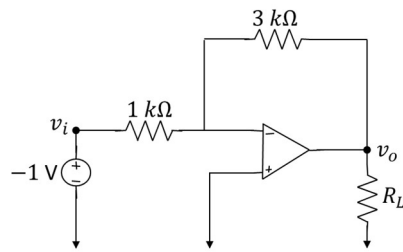
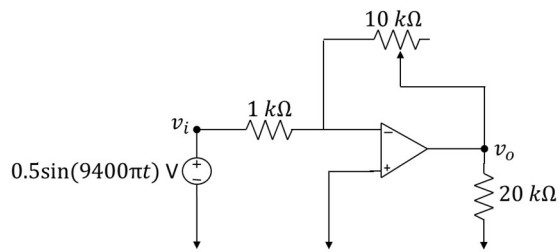

Figure 5. Inverting amplifier.
Figure 8. Inverting amplifier with volume control.
Figure 5 below shows an inverting amplifier circuit. Assume power rails of $\pm 5\text{ V}$.
a) Calculate the value of v_o in Figure 5.
Do a PSpice simulation of the circuit in Figure 5. Make a graph of v_o as a function of R_L . To do
Build the circuit shown below in Figure 8. Use $\pm 5 V$ for the power rails. Note the changes in this circuit as compared to the one in Figure 5 of the prelab. Connect a $10 k\Omega$ pot as a variable resistor as shown. Initially, set the pot so that the feedback resistor is $10 k\Omega$. Use the scope to view v_i on channel 1. Set the scope to trigger on channel 1 with positive slope and 0 level so that v_i looks like a sin (not cos, or other). Now, connect channel 2 of the scope to v_o . Measure and record the amplitude and period of both v_i and v_o . Note that v_o is inverted with respect to v_i , as expected. Write an equation for both of these voltages.